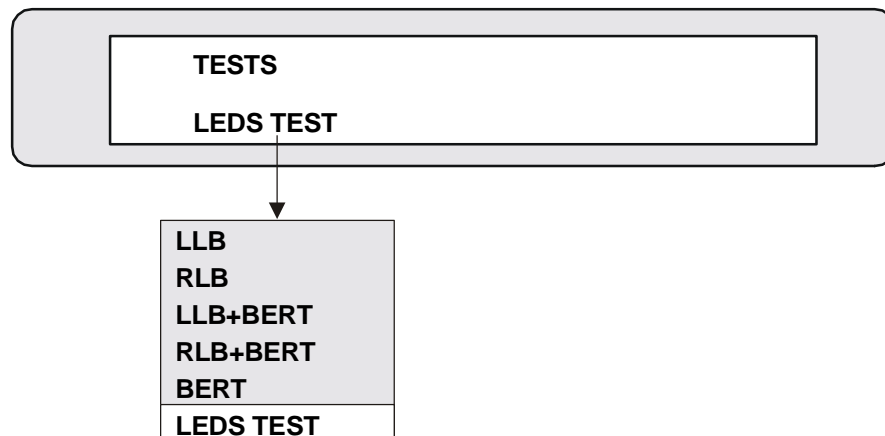

Figure 5-8. Running LEDs Test
4. Press the SCROLL button until LEDS TEST is displayed (see Figure 5-8).